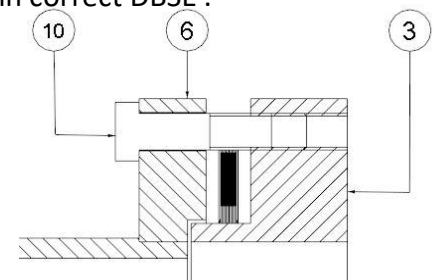

Fig 6. Compression of transmission unit
- Compress the transmission unit, by inserting gagging screws (10) through center spacer (6) (fig.6).